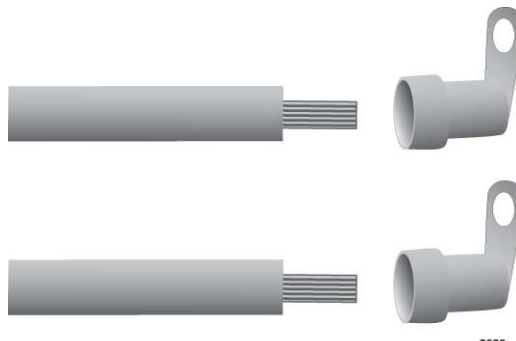

Figure 145. Attaching the Power Wires to the Right Angle Terminals
2. Insert the power wires into the right angle terminals included with the power supply and use a crimping tool to secure the wires to the terminals. See Figure 145,